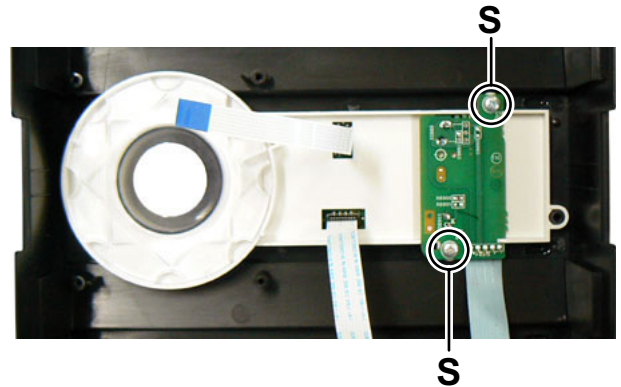

Fig.18
- (3) Remove the two screws **S** attaching the Touch sensor board. (See Fig.18)